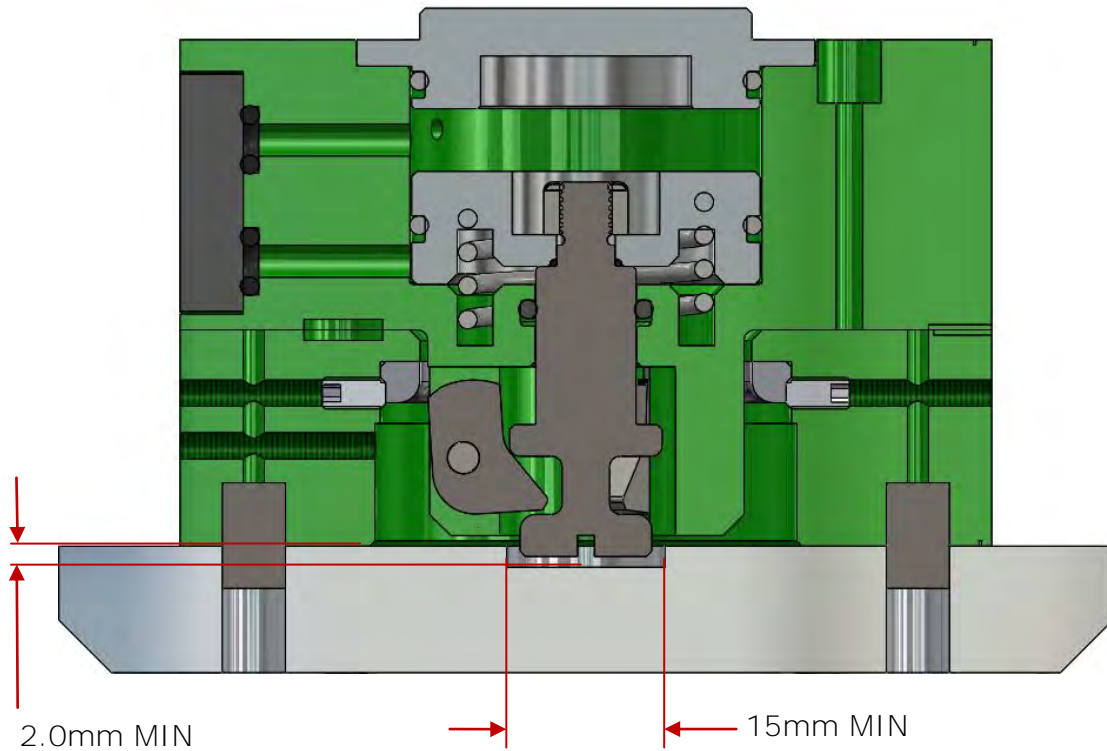

Figure 5.2-2. ET63 Tool Adaptor and Tool Plate Installation (No Pilot)
Alternatively, if a locating boss/pilot is not used to locate the tool plate to the Tool Adaptor and two (2) locating dowels are used instead, then a 15mm diameter counter-bore with a minimum depth of 2mm must be made into the tool plate to allow for clearance of the latching mechanism (Figure 5.2-2).